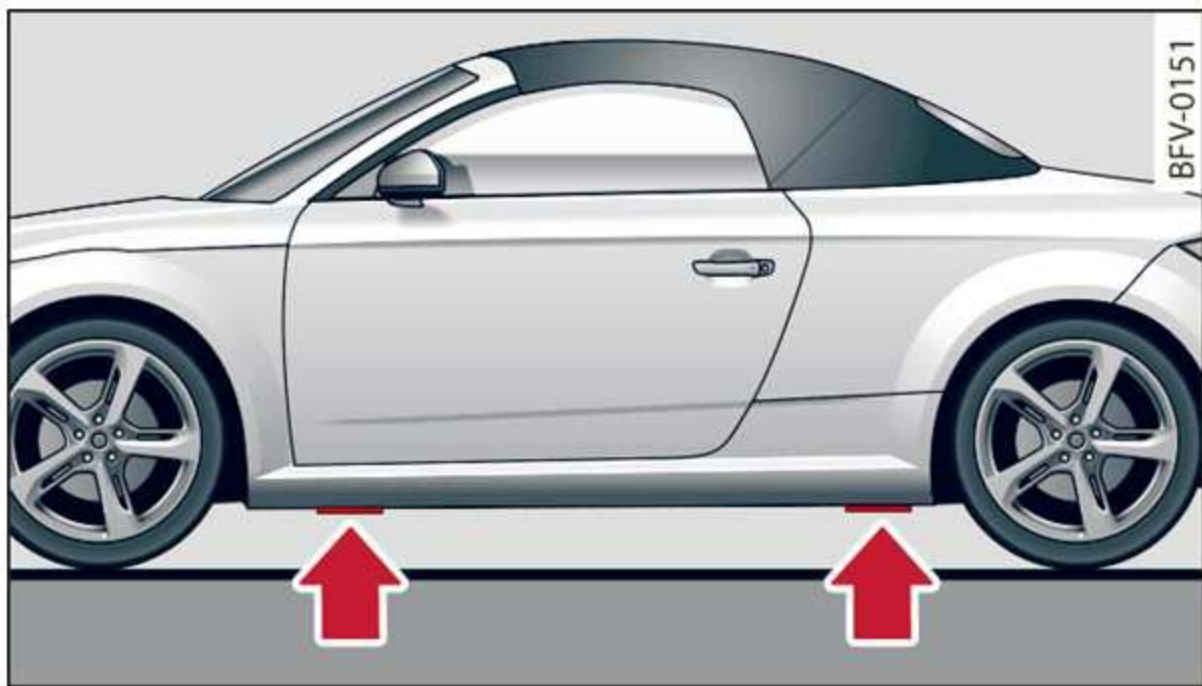

Fig. 193 Sill: markings (example)
- ▶ Find the marking on the sill that is closest to the tire that will be changed ⇒ *fig. 193*. Behind the marking, there is a lifting point on the side sill for the vehicle jack.